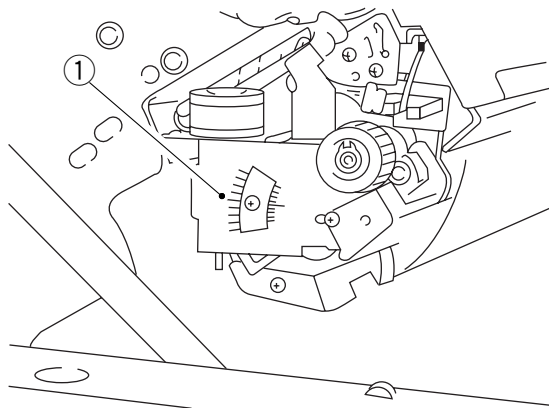

Figure 10-236 (rear view)
- The copier enters fixing film initial rotation mode (405) to return the fixing film to its proper position.
- 10) Check that the arrow ① is at the middle of the memory as shown in Figure 10-236.